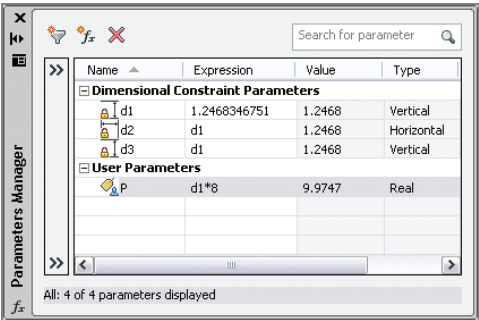

FIGURE 12.8 Adding a user parameter in the Parameters Manager
- 9. Type **P** (for Perimeter) as the user parameter name and press Enter. Double-click the Expression value, type **d1*8** (d1 times 8), and press Enter (see Figure 12.8). The perimeter of the square is equal to eight times the length of half of one of its sides. Close the Parameters Manager.